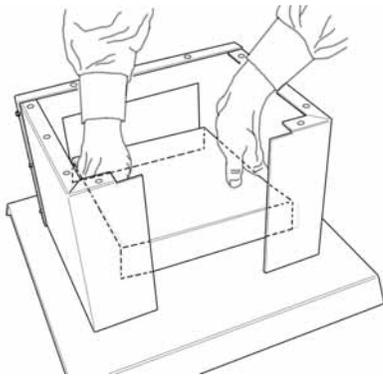

Figure 5 – Insert Ash Drawer Support.
5. Position ash drawer support into assembled pedestal (Figure 5) and secure from rear with two (2) machine screws, lockwashers and hex nuts. Tighten all pedestal hardware.
6. Position the pedestal top with the large vent hole positioned toward the front and attach with six (6)